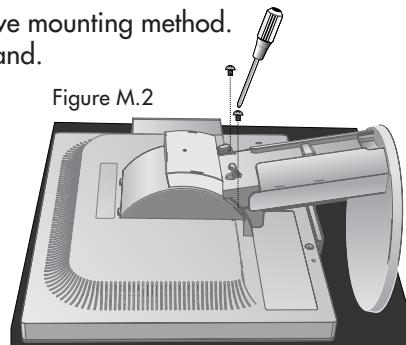

Figure M.2
3. Place monitor face down on a non-abrasive surface (**Figure M.2**).
4. Remove the 2 screws connecting the stand to the monitor (**Figure M.2**).